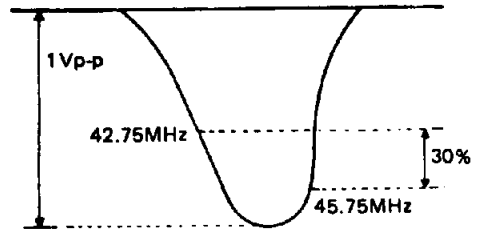

Figure 22. I-F Overall Response Curve
2. Adjust the core of tuner. (See Fig. 22)